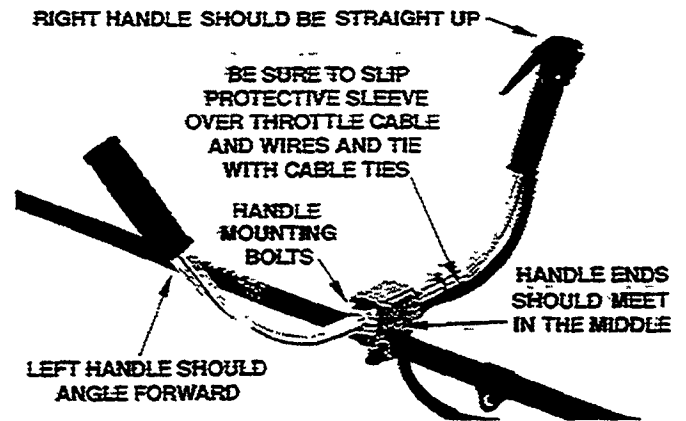

Figure 2
- With wrench supplied, tighten all four (4) bolts evenly and securely.
2. INSTALLING MID-HANDLE (Figure 2)
- Loosen the four bolts on the handle clamp and slip handle ends into clamp so the ends meet in the middle. Note: Right side handle has throttle and stop switch assembly mounted on it (Figure 2).
- Adjust handles for operator control and comfort and tighten the four (4) clamp bolts evenly and securely.